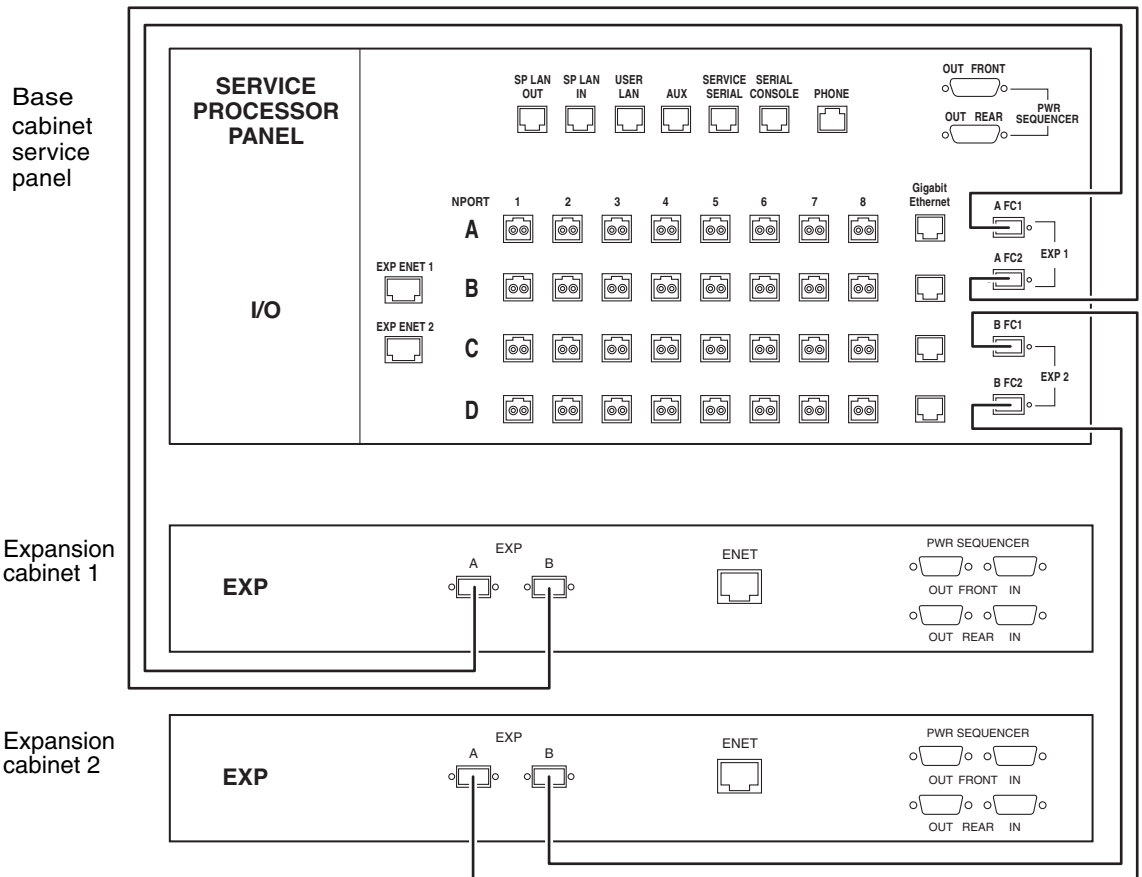

FIGURE 2-10 FC Cabling Between the Base Cabinet Service Panel, Expansion Cabinet 1, and Expansion Cabinet 2
Connect redundant Fibre Channel (FC) cables (part number 537-1060-01) as follows (see FIGURE 2-10):